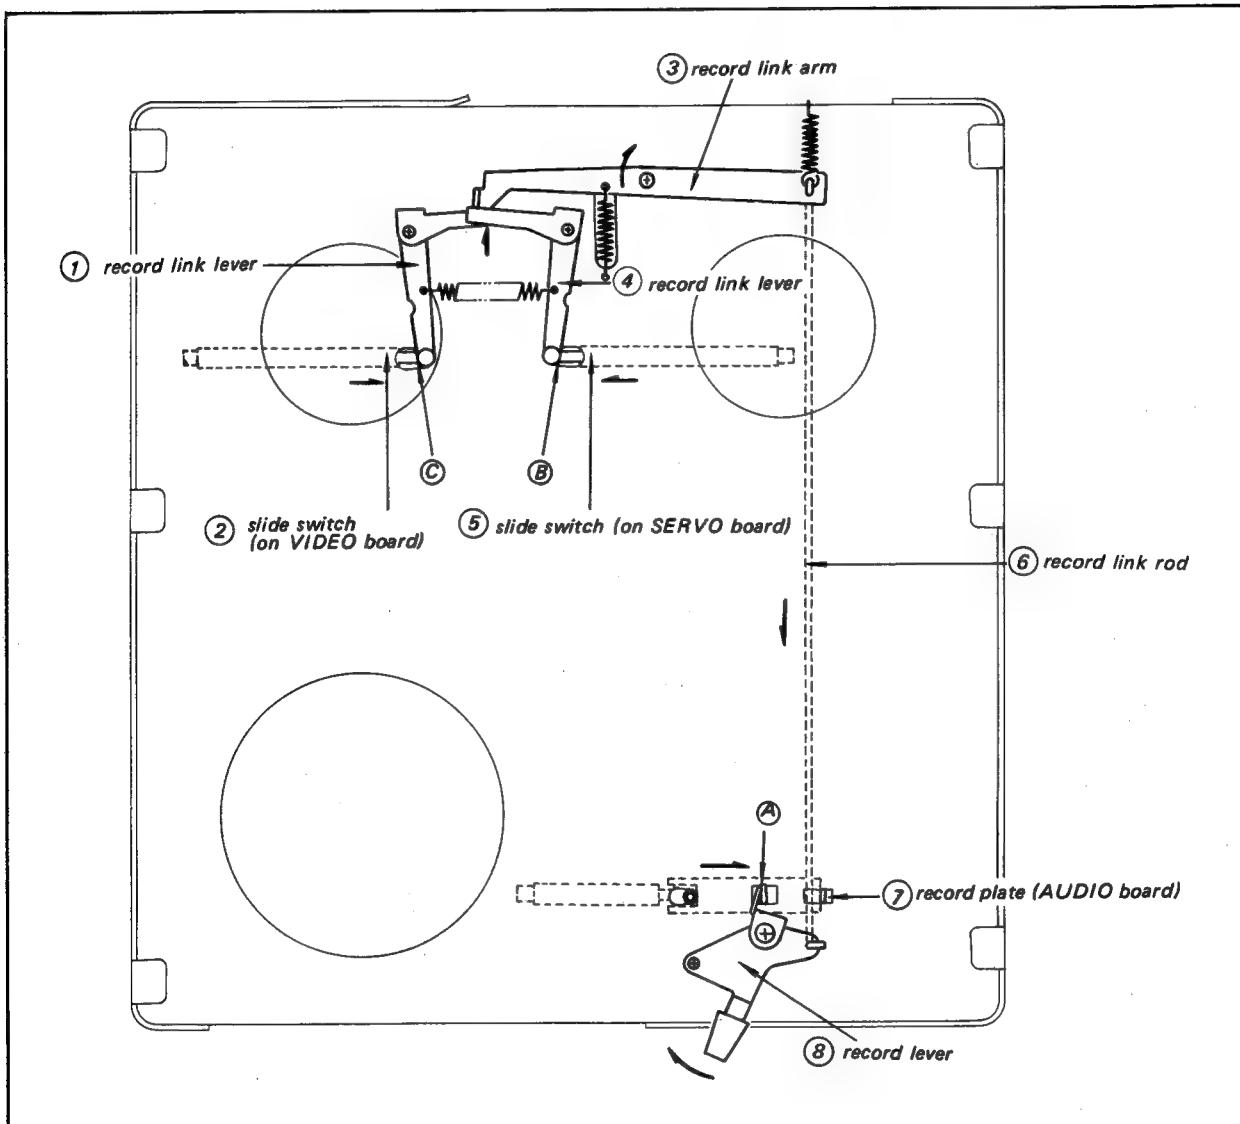

Fig. 9-5 Record mode mechanism
The tape transport operates the same in the record mode as it does in the play mode except that the record switches on the audio, video and servo boards are actuated. Refer to Fig. 9-5.
The Record Lever actuates the Record Plate on the audio board (at ⑦ in Fig. 9-5) and also the Record Link Rod, which pivots the Record Link Arm slightly clockwise. This permits two Record Link Levers, both under tension from a common spring, to pivot in opposite directions, thus actuating the slide switches on the servo and video boards (at ② and ⑤, respectively).